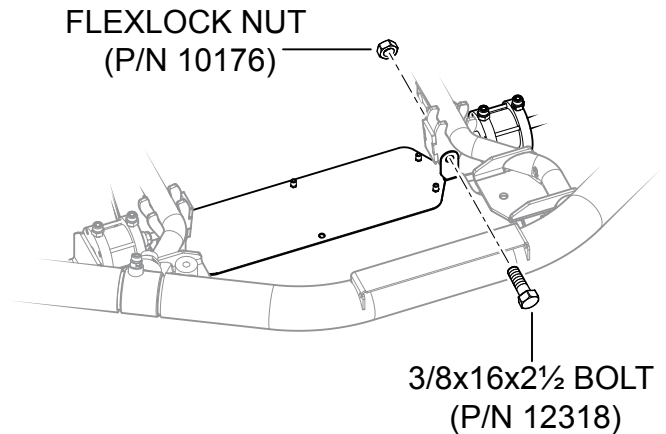

Figure 9. Reinstallation of Splash Guard Bracket with Steering Cylinders
4. Reattach the splash guard bracket (together with the steering cylinders) to the machine. Make sure that the empty nut hole is positioned towards the front of the machine. Tighten all bolts and screws. See Figure 9.